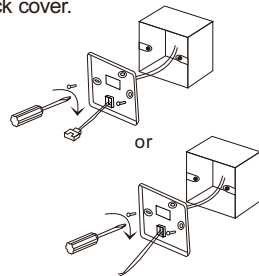

Fig.2
3. As shown in Fig.2, fix  $\phi 4 * 20\text{mm}$  screws provided together with the back cover on 8 6 box, then pass lead wires through the back cover.